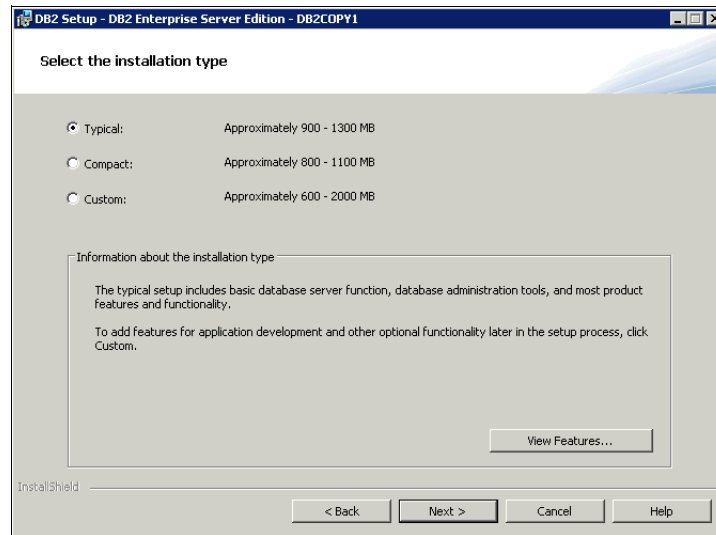

Figure 12-6 Typical installation
5. Accept the default installation type, **Typical**, and click **Next** to continue (Figure 12-6).